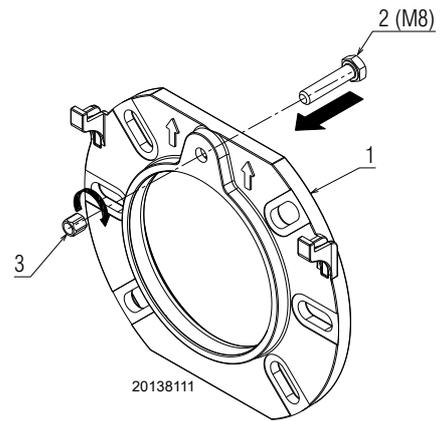
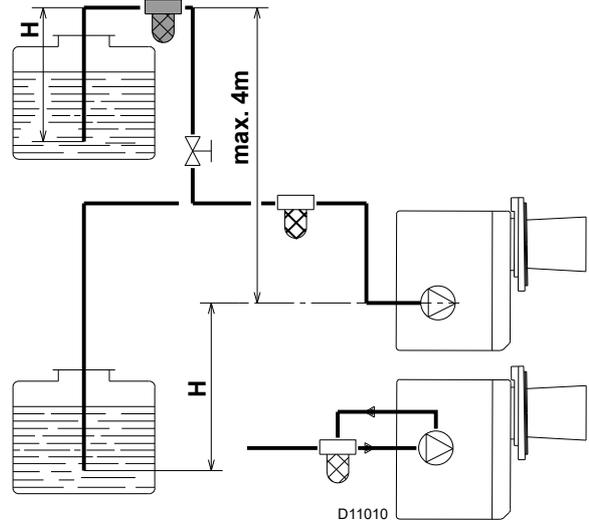

Fig. 7
Fig. 13
- Insert the screw 2) in the flange 1), and tighten the nut 3)(Fig. 7);
The one pipe vacuum systems (Fig. 13) have a negative pressure (depression) at the burner inlet.
The Manufacturer recommends the use of a good quality fuel filter on the tank (Fig. 13), and a secondary filter (60µ for light oil and 15µ for kerosene), to protect the burner pump and nozzle from contamination.
On the system in Fig. 7 just loosen the plug of the vacuumeter 6)(Fig. 13) and wait until the fuel comes out.
On the system in Fig. 13 switch on the burner and wait for the priming. Should lockout occur prior to the arrival of the fuel, await at least 20 seconds before repeating the operation.